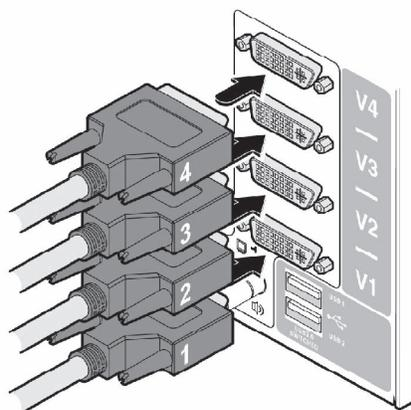

FIGURE 3-9. CONNECTING MULTIPLE VIDEO OUTPUTS TO THE DVI-I PORTS
**Multihead units:** Use DVI or VGA to DVI-I adapter cables (if using analog signals) to link the video outputs of each computer to the DVI-I ports on the rear of the unit (see Figure 3-9 and the note below).